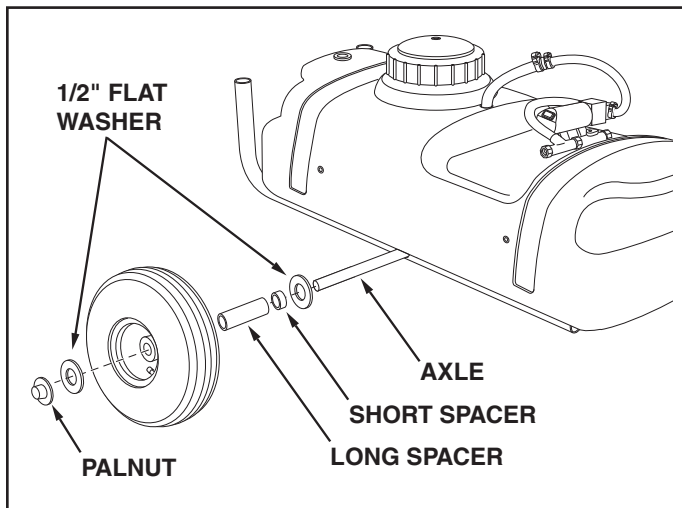

FIGURE 1
2. Assemble the axle through the holes in the frame tubes. You may need to slightly loosen the bolts in the frame tubes to make the axle fit. Retighten the bolts only enough to flatten the lock washers. See figure 1.
3. Assemble a 1/2" flat washer, a short spacer, a long spacer, a wheel and another 1/2" flat washer onto the axle. Lightly tap a palnut onto the end of the axle. Repeat on other end of axle. See figure 1.